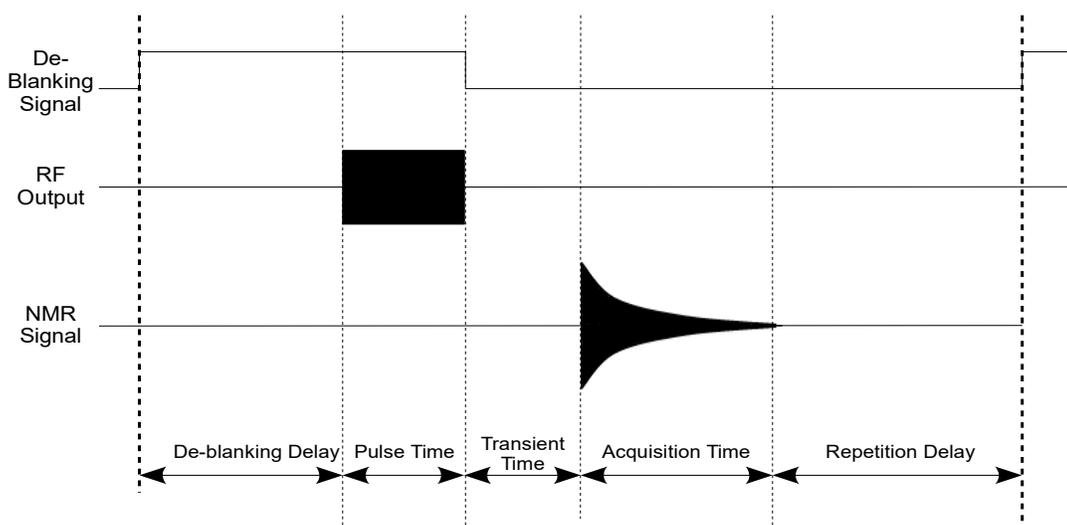

Figure 10: Timing diagram for one single pulse NMR scan (not drawn to scale).
5. Edit the singlepulse\_nmr\_example.bat batch file by right-clicking and selecting “edit” and save the batch file when finished. The timing values in the batch file correspond to those in Figure 10, on the following page.